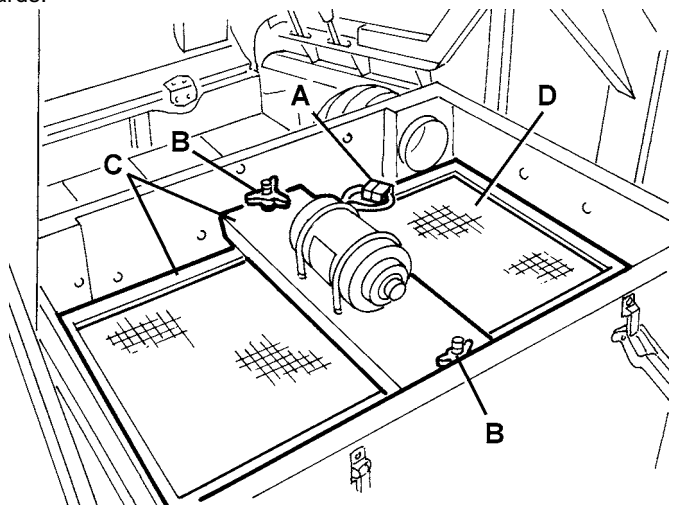

Figure 13
5. Disconnect the connector (A, Fig. 13) from the filter shaker.
6. Unscrew the knobs (B, Fig. 13) and remove the filter mounting frame (C).
7. Remove the dust filter (D, Fig. 13).